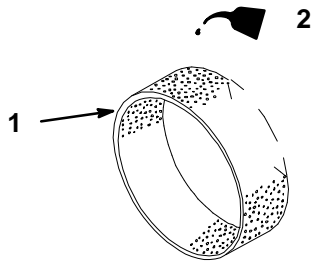

Figure 16
3. Put one or two ounces of oil on the element (Fig. 16). Squeeze the element to distribute the oil.